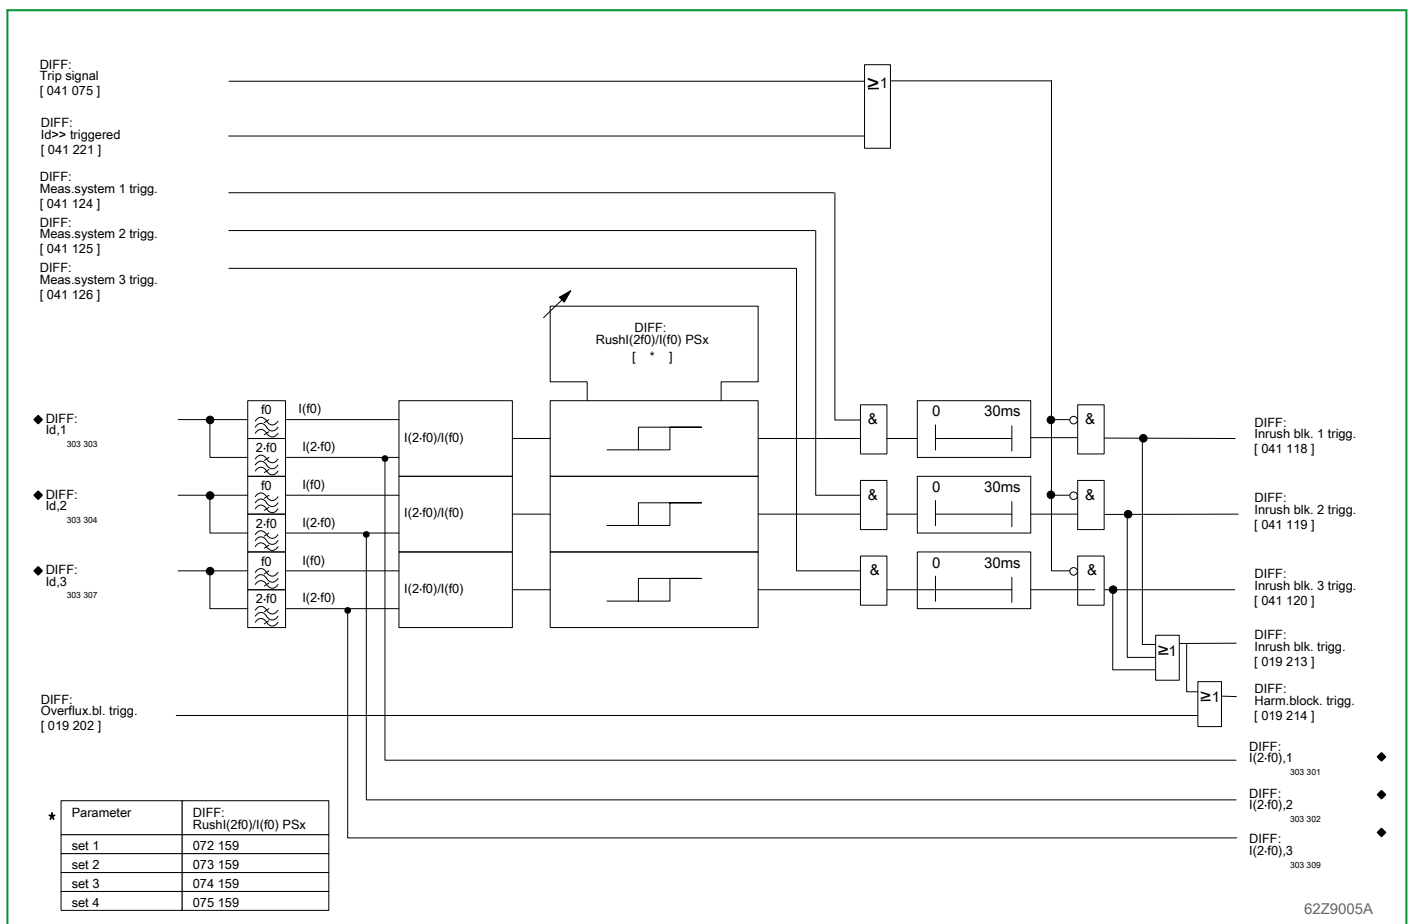

Fig. 3-95: Inrush blocking
- selectively for one measuring system (see Fig. 3-95, (p. 3-137)).